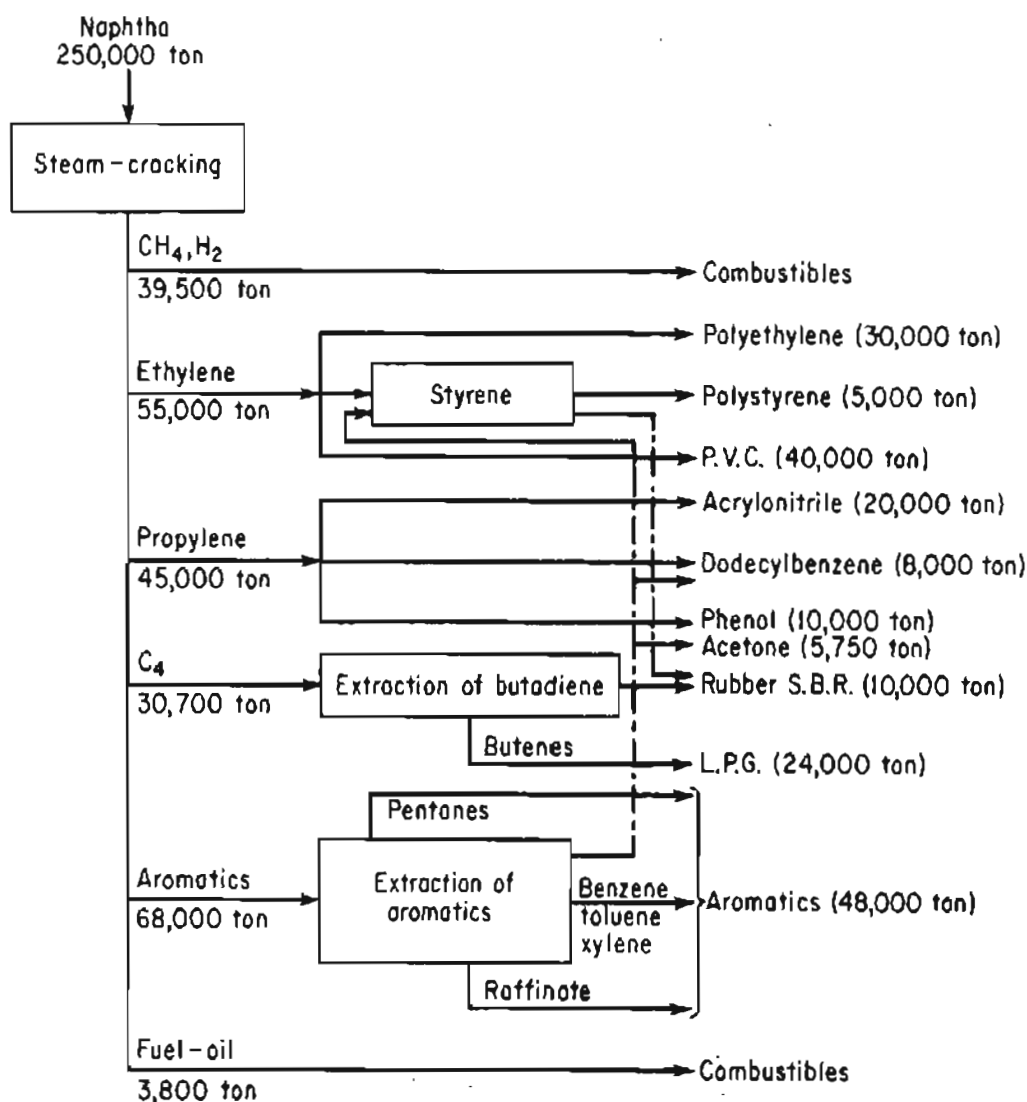

Figure P6.8
- **6.8** Examine the flow sheet in Figure P6.8. Does the mass in equal the mass out? Give one or two reasons why the mass does or does not balance.